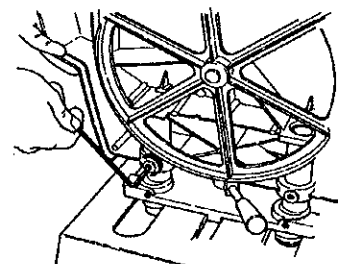

Fig.B-4
8. Loosen the two tube locking setscrews in the Bandsaw's lower frame. The setscrews on the carriage should still be loose. See Fig.B-4.